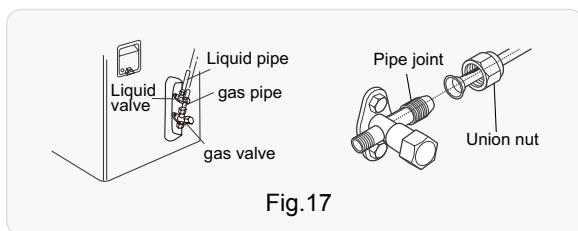

Fig.17
- (2) Remove the screw cap of valve and aim the pipe joint at the bellmouth of pipe.(As show in Fig.17)